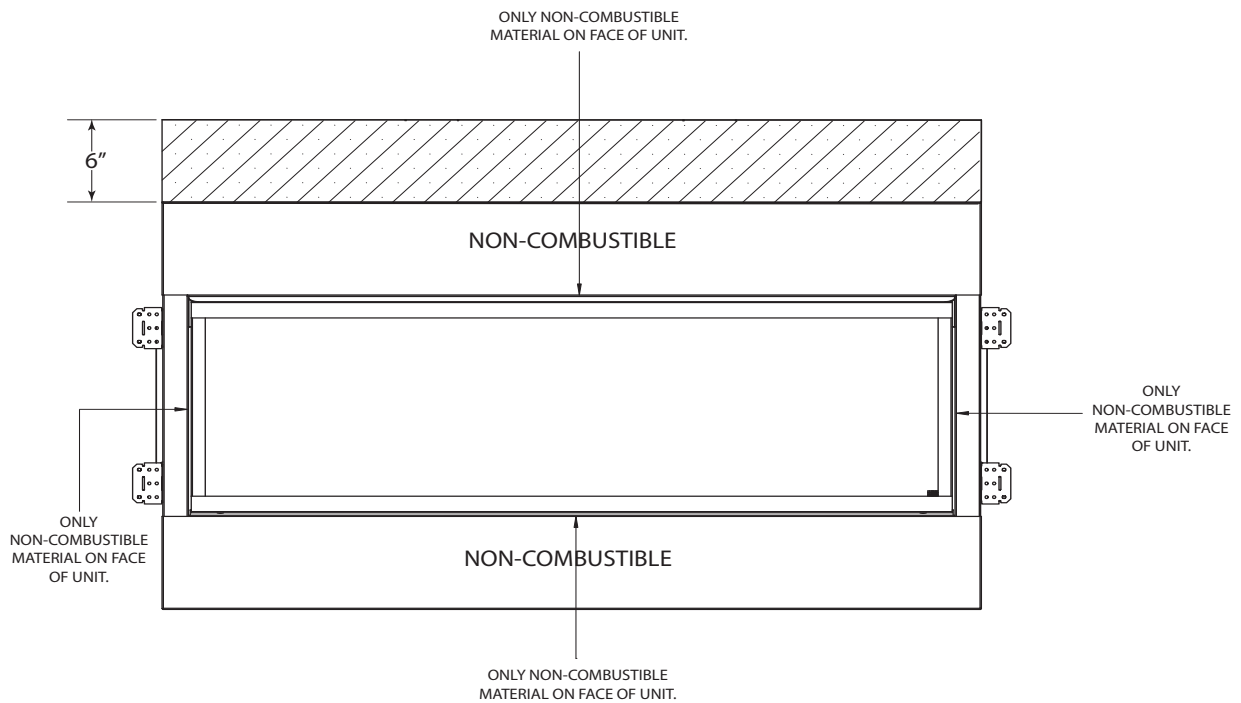
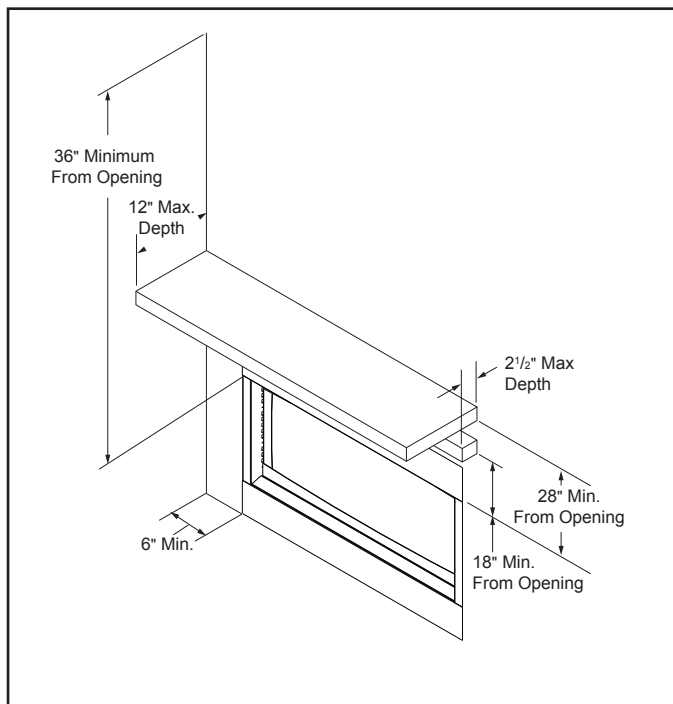
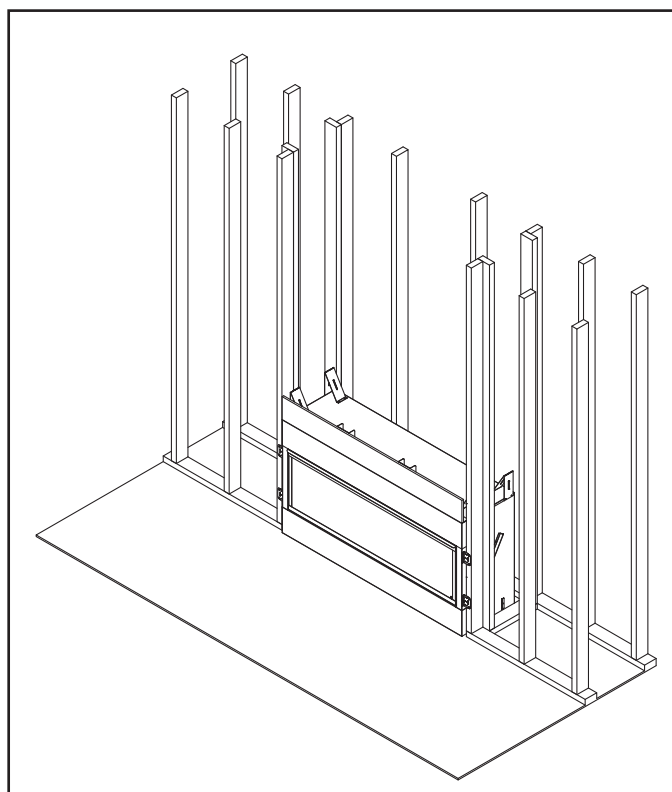

Figure 3.2 - Optional Facing Installation
Figure 3.4 Sidewall and Ceiling Clearances
Figure 3.7 Floor Protection
1. Position fireplace in desired location. Refer to the *Fireplace Location* (page 8, Figure 3.2) and *Clearances and Height Requirements* (page 9, Figures 3.4 and 3.5) sections and *Fireplace and Framing Dimensions* (page 8, Figure 3.2) illustration found in this manual.
Ensure that minimum clearances shown in Figures 3.4 and 3.5 are maintained. Left and right clearances are determined when facing the front of the firebox.
Sidewall Clearances — The clearance from the inside of the appliance to any combustible adjacent wall should not be less than 6". Figure 3.4.
Ceiling Clearance — The ceiling or any other combustible material must be at least 36" from the firebox opening. Figure 3.4
The dimensions shown in Figures 3.4 and 3.5 are minimum clearances to maintain when installing this heater. Left and right clearances are determined when facing the front of the heater.
Mantel clearances — Must meet the clearance requirements detailed in Figures 3.4 and 3.5.
Note: Figure 3.4 and Figure 3.5, and Figure 3.7 show the fireplace installed on the floor. However, this fireplace can be elevated off the floor provided that the fireplace is properly supported by framing materials and the ceiling clearances are maintained.